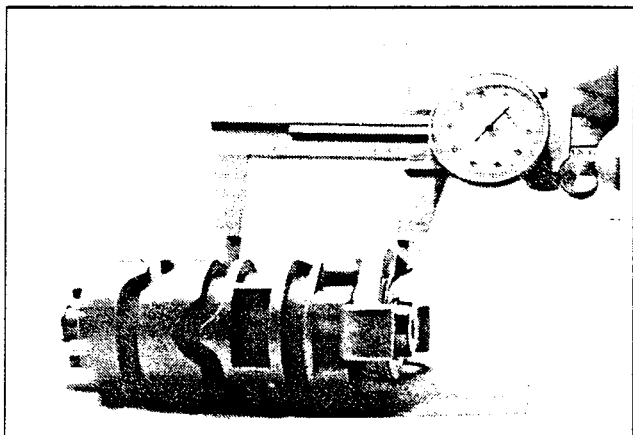
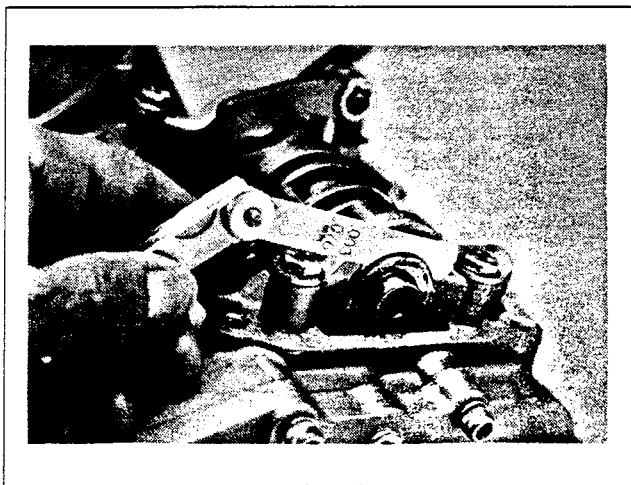

Figure 6. Measuring Shift Drum Position
Figure 7. Checking End Play
7. See Figure 6. Rotate the drum to its neutral position. With the drum snug against the thrust washer of right support block measure from the outside machined surface of the exposed shoulder at the outer perimeter of the thrust washer to the nearest edge of the center groove. This measurement should be 1.992-2.002 in. Cam end play Figure 7, should not exceed 0.009 in. If measurements are not as specified in this bulletin consult your service manual.